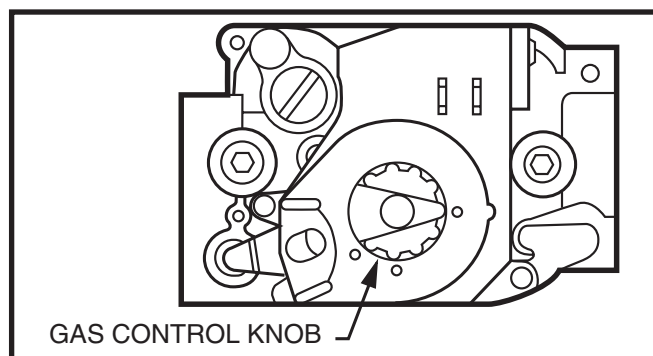

Figure 28. Direct Ignition Gas Valve - Honeywell
3. Remove the furnace door and turn off the gas valve. Push in and turn the gas control knob clockwise to **OFF**. See Figure 28.
4. Wait ten (10) minutes to clear out any gas. If you smell gas, **STOP!** and follow the Safety Information. If you do not smell gas, proceed to step 5.
6. Turn the gas valve ON. Push in and turn gas control knob counter-clockwise to **ON** (Figure 28).
4. Turn gas control knob clockwise to **OFF** (Figure 28).
2. Verify the furnace On-Off switch is in the ON position. See Figure 27 \(page 17\) or Figure 28 \(page 19\).